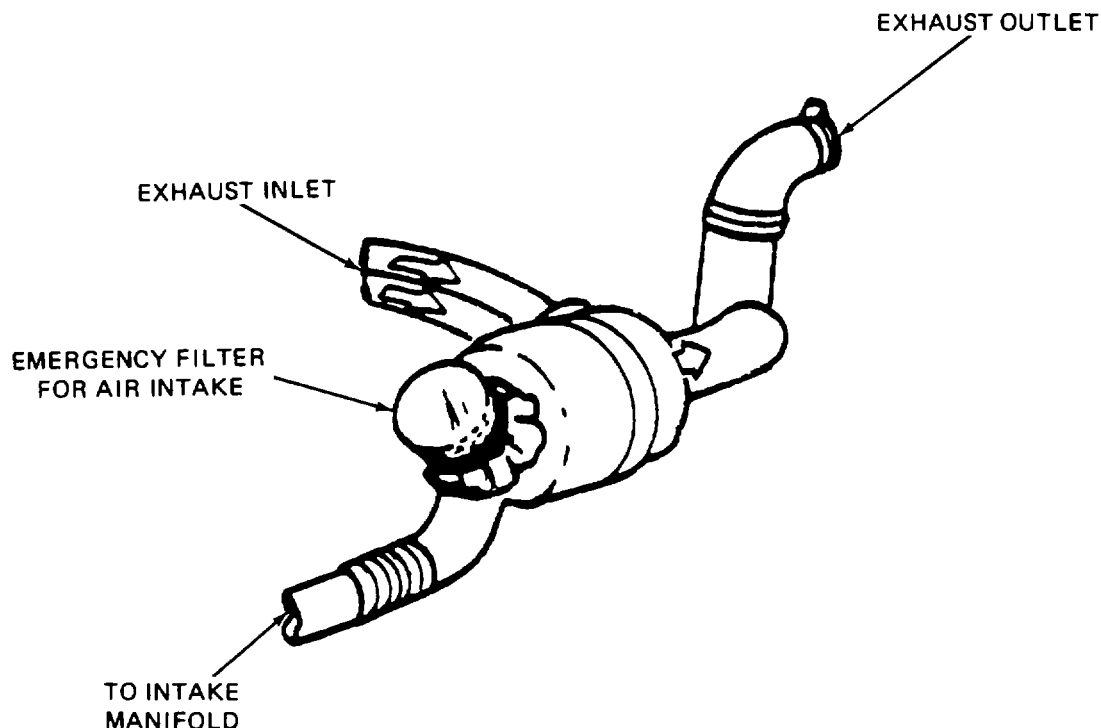

Figure 4-2. Emergency Filter for Air Intake.
- (1) Disconnect the air hose at the attachment to the engine (figure 4-2).
- (2) Cover the air inlet with clean rag (use a shirt or blanket if no rags are available). Clean the rag whenever it gets dirty.
- (3) Anchor the cloth tightly to the air intake with a hose clamp or wire, otherwise the strong vacuum will suck the rag into the engine.
- (4) Other options: Bypass or eliminate air cleaner.